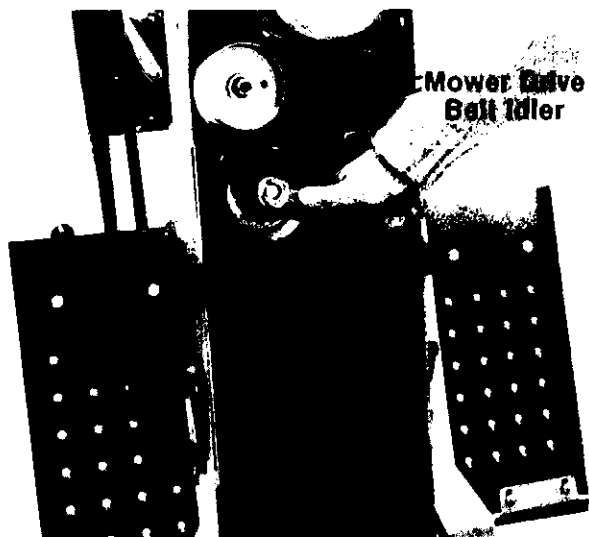

FIGURE 26.
2. Disconnect the mower drive belt idler. See figure 26.